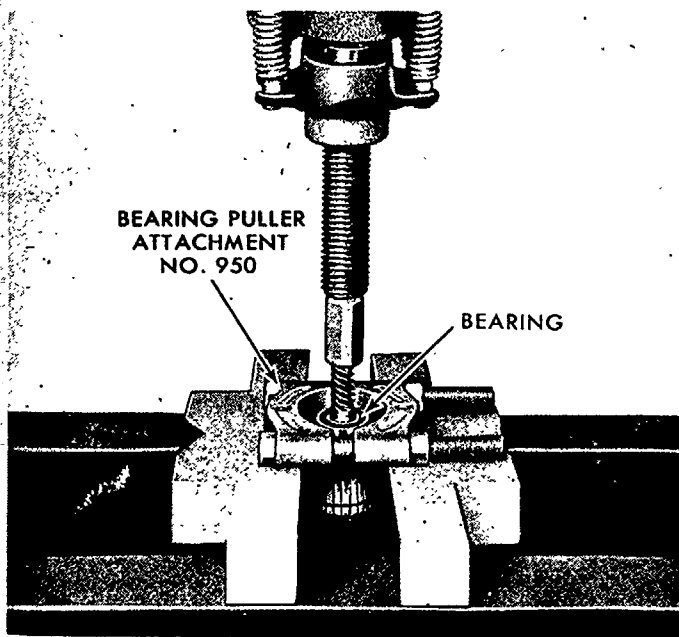

Figure 17
- a. Remove the bearing from the commutator end of the armature shaft, using Bearing Pulling Attachment No. 950 as shown in Figure 17; then slide the spacer off the armature shaft.